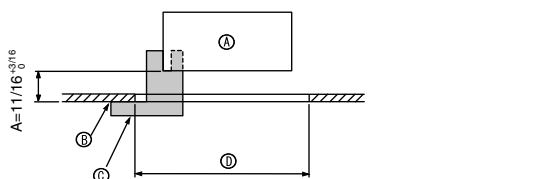

Fig. 9-2
①	Grille	1	950 x 950 (mm), 37-3/8 x 37-3/8 (inch)
②	Screw with captive washer	4	M5 x 0.8 x 25
③	Gauge	1	(Divided into four parts)
④	Fastener	3
⑤	Screw	4	4 x 8
⑥	Screw	1	4 x 12
9.2. Preparing to attach the grille (Fig. 9-2)
- With the gauge ③ supplied with this kit, adjust and check the positioning of the unit relative to the ceiling. If the unit is not properly positioned relative to the ceiling, it may allow air leaks or cause condensation to collect.
- Ⓒ Gauge ③ (inserted into the unit)